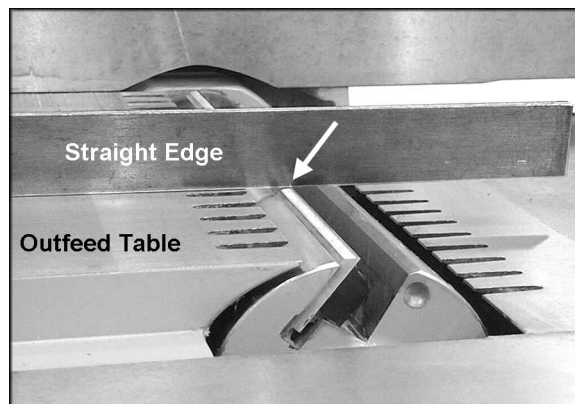

Figure 13
2. Place a straight edge on the outfeed table and extending over the cutterhead, as shown in Figure 13.